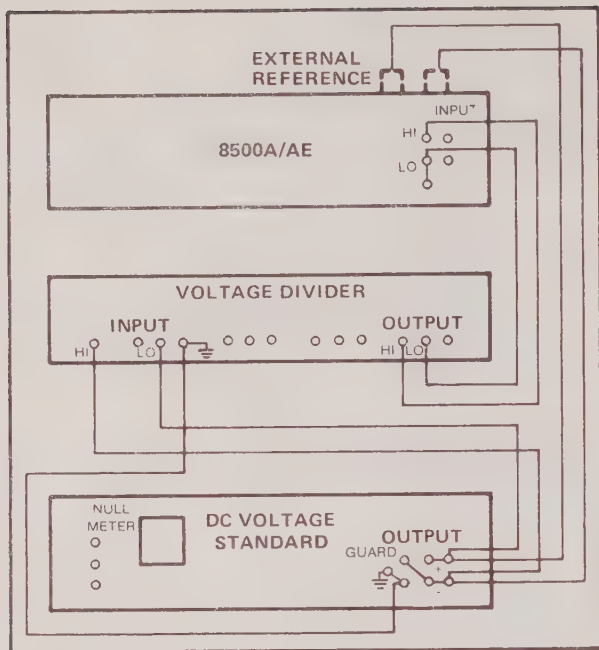

Figure 4-3. DC External Reference Test
1. Connect the test equipment to the 8500A/AE as shown in Figure 4-3.